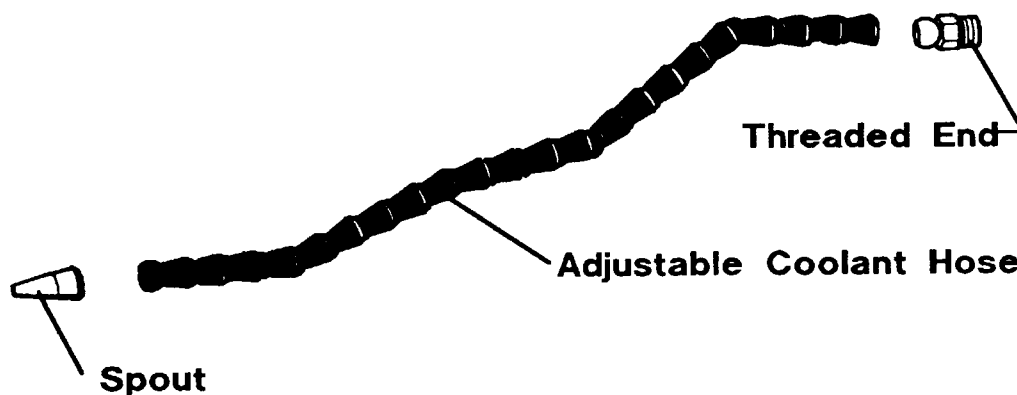

FIG 2-7
3. Assemble the three pieces of the adjustable coolant hose as shown in **Figure 2-7**. The pieces simply push together. After assembling the hose, fasten it to the water jug by screwing the threaded end of the hose into the valve of the jug. A thread sealer may be necessary to prevent leakage.